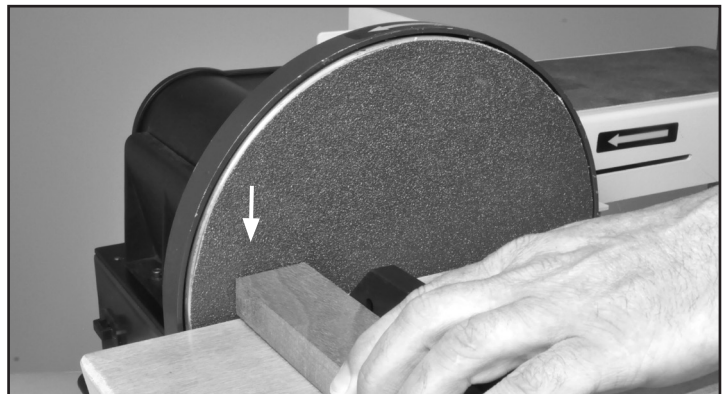

FIG. 30
**⚠ WARNING:** When sanding, always position your work on the downward, rotating side (left side) of the sanding disc. FIG. 30. The sanding action will then force the wood down, safely towards the table, where it can be controlled. Sanding on the right, upward rotating side of the disc is dangerous, as your work cannot be controlled and 'kick-back' may occur - the wood being forced up and out of your hands.
1. Depending on your work, set the Sanding Disc Table to the proper angle from 45° to 90°. FIG. 30, 31.
Always sand *outside* curves on your work piece with the sanding belt in vertical position, using the belt's fence for support. FIG. 34. Or sand your work on the left side of center on the sanding disc. FIG. 30 & 31.